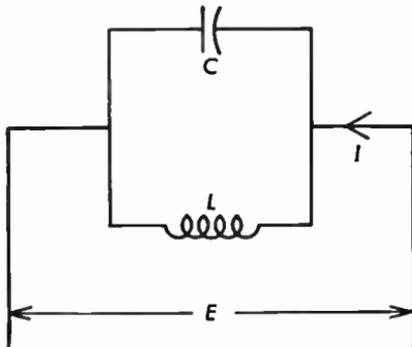

Fig. 3.16 Capacitance and inductance in parallel.
3.16 In Figure 3.16,  $X_c = 5200$  ohms,  $X_l = 5100$  ohms,  $I = 5$  microamperes. Find the total impedance and the voltage  $E$ .